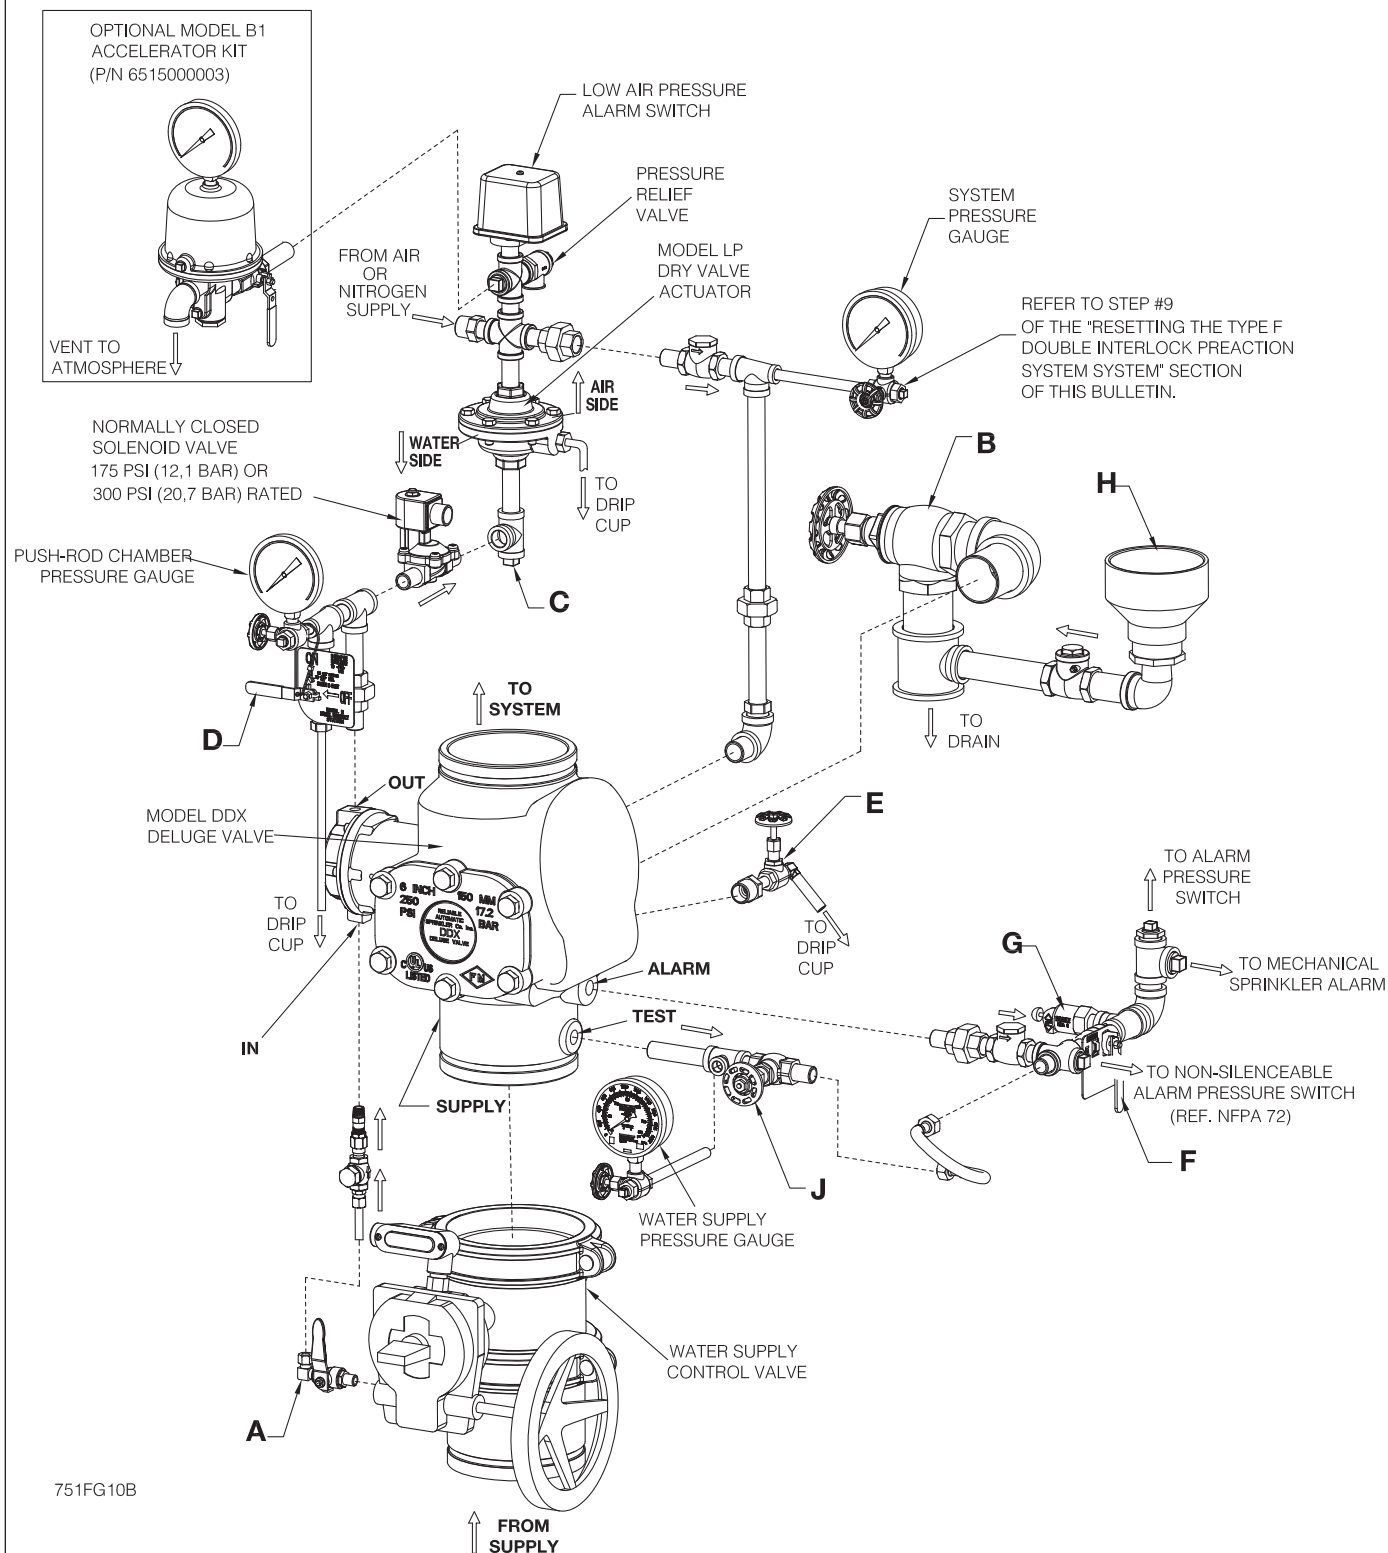

Fig. 10
9. Secure Model B Manual Emergency Station, valve D (Fig. 10), in the OFF position with a nylon tie (#55, Fig. 2 or #58, Fig. 3), see Fig. 5, after the Deluge Valve is reset.
Refer to Fig. 10.
Refer to Fig. 10
2. **Leakage out of the ball drip valve E (Fig. 10).**
### b. Leakage, air or water from the ball drip valve, E (Fig. 10):
- A) Shut down the valve controlling the water supply to the Deluge Valve and open the 1 1/4" main drain valve on the 2" (50mm), 2 1/2" (65mm), 76mm and 3" (80mm) valve sizes or the 2" main drain valve on the 4" (100mm), 165mm, 6" (150mm) and 8" (200mm) valve sizes, valve B (Fig. 10). Open the water column drain valve E (Fig. 10). Close the push-rod chamber supply valve A (Fig. 10) and open the Model B Manual Emergency Station, valve D (Fig. 10).
- a) Shut down the valve controlling water supply to the Deluge Valve. Relieve the inlet pressure by opening the 1¼" main drain valve on the 2" (50mm), 2½" (65mm), 76mm and 3" (80mm) valve sizes or the 2" main drain valve on the 4" (100mm), 165mm, 6" (150mm) and 8" (200mm) valve sizes, valve B (Fig. 10). Close the valve A (Fig. 10) that supplies water to the push rod chamber, and open the Model B Manual Emergency Station, valve D (Fig. 10).
Refer to Figs. 10 & 11
1. Close the main valve controlling water supply (Fig. 10) to the Dry Pipe Valve and close off the air/nitrogen supply to the sprinkler system. Close valve A (Fig. 10).
2. Drop pressure in the system by opening the ¼" globe valve, valve E (Fig. 10), and remove the Actuator from the system.